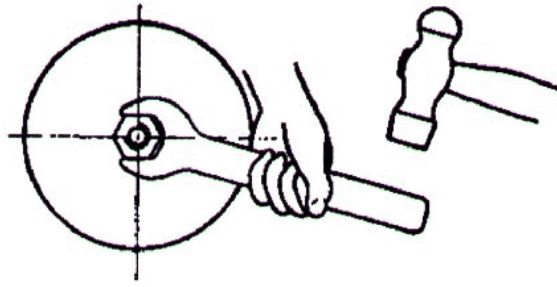

Figure 9. Tightening Flywheel
3. Tapping the spanner handle with a hammer forces the nut to tighten some more (see Fig. 9).